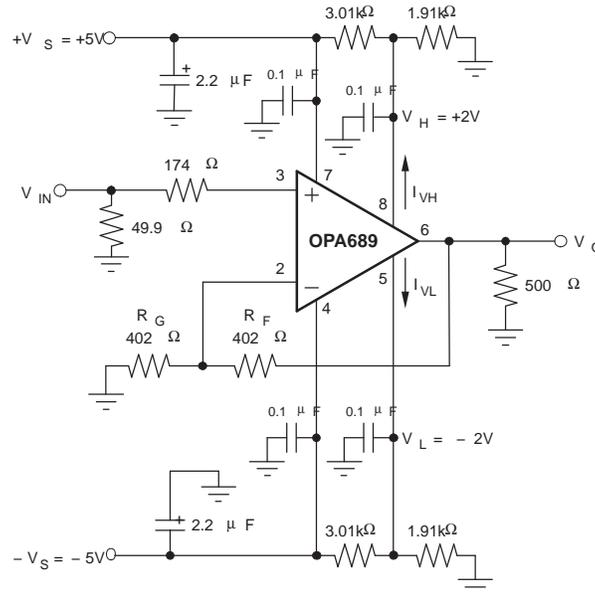
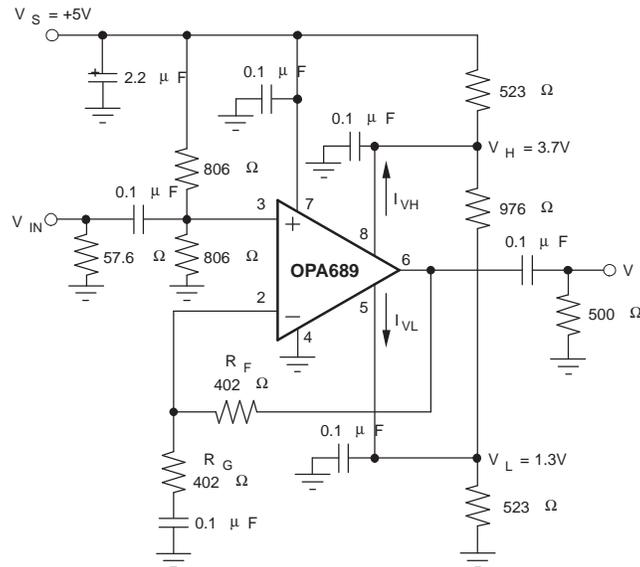

Figure 30. DC-Coupled, Dual Supply Amplifier
Figure 31. AC-Coupled, Single Supply Amplifier
- (3) I_{VH} (V_H bias current) is positive and I_{VL} (V_L bias current) is negative under these conditions (see Note 3, Figure 31, and Figure 37).
- (4) Limiter feedthrough is the ratio of the output magnitude to the sine wave added to V_H (or V_L) when $V_{IN} = 0$.
- (5) Current is considered positive out of node.
- (6) V_H slew rate conditions are $V_{IN} = 0.7\text{ V}$, $G = 6$, $V_L = -2\text{ V}$, $V_H = \text{step between } 2\text{ V and } 0\text{ V}$. V_L slew rate conditions are similar.
Figure 30 shows a non-inverting gain amplifier for dual-supply operation. This circuit was used for AC characterization of the OPA689, with a 50-Ω source, which it matches, and a 500-Ω load. The power-supply bypass capacitors are shown explicitly in Figure 30 and Figure 31, but will be assumed in the other figures. The limiter voltages (V_H and V_L) and their bias currents (I_{VH} and I_{VL}) have the polarities shown.
Figure 31 shows an AC-coupled, non-inverting gain amplifier for single 5-V supply operation. This circuit was used for AC characterization of the OPA689, with a 50-Ω source, which it matches, and a 500-Ω load. The power-supply bypass capacitors are shown explicitly in Figure 30 and Figure 31, but will be assumed in the other figures. The limiter voltages (V_H and V_L) and their bias currents (I_{VH} and I_{VL}) have the polarities shown. Notice that the single-supply circuit can use three resistors to set V_H and V_L , where the dual-supply circuit usually uses four to reference the limit voltages to ground.
voltages can break down internal junctions, possibly leading to catastrophic failure. Single-supply operation is possible as long as common mode voltage constraints are observed. The common mode input and output voltage specifications can be interpreted as a required headroom to the supply voltage. Observing this input and output headroom requirement will allow design of non-standard or single-supply operation circuits. Figure 31 shows one approach to single-supply operation.
When the limiter voltages are more than 2.1 V from the supplies ($V_L \geq -V_S + 2.1$ V or $V_H \leq V_S - 2.1$ V), you can use simple resistor dividers to set V_H and V_L (see Figure 30). Make sure you include the Limiter Input Bias Currents (Figure 37) in the calculations (i.e., $I_{V_L} \geq -50$ μ A out of pin 5, and $I_{V_H} \leq 50$ μ A out of pin 8). For good limiter voltage accuracy, run at least 1-mA quiescent bias current through these resistors.
When the limiter voltages need to be within 2.1 V of the supplies ($V_L \leq -V_S + 2.1$ V or $V_H \geq V_S - 2.1$ V), consider using low impedance buffers to set V_H and V_L to minimize errors due to bias current uncertainty. This will typically be the case for single supply operation ($V_S = 5$ V). Figure 31 runs 2.5 mA through the resistive divider that sets V_H and V_L . This keeps errors due to I_{V_H} and $I_{V_L} < \pm 1\%$ of the target limit voltages.